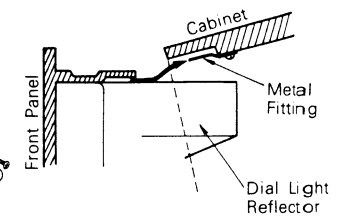

Fig. 9
4. When the cabinet is installed, insert the metal fitting of cabinet (as shown in fig. 9) into the space between the front panel and light reflector.